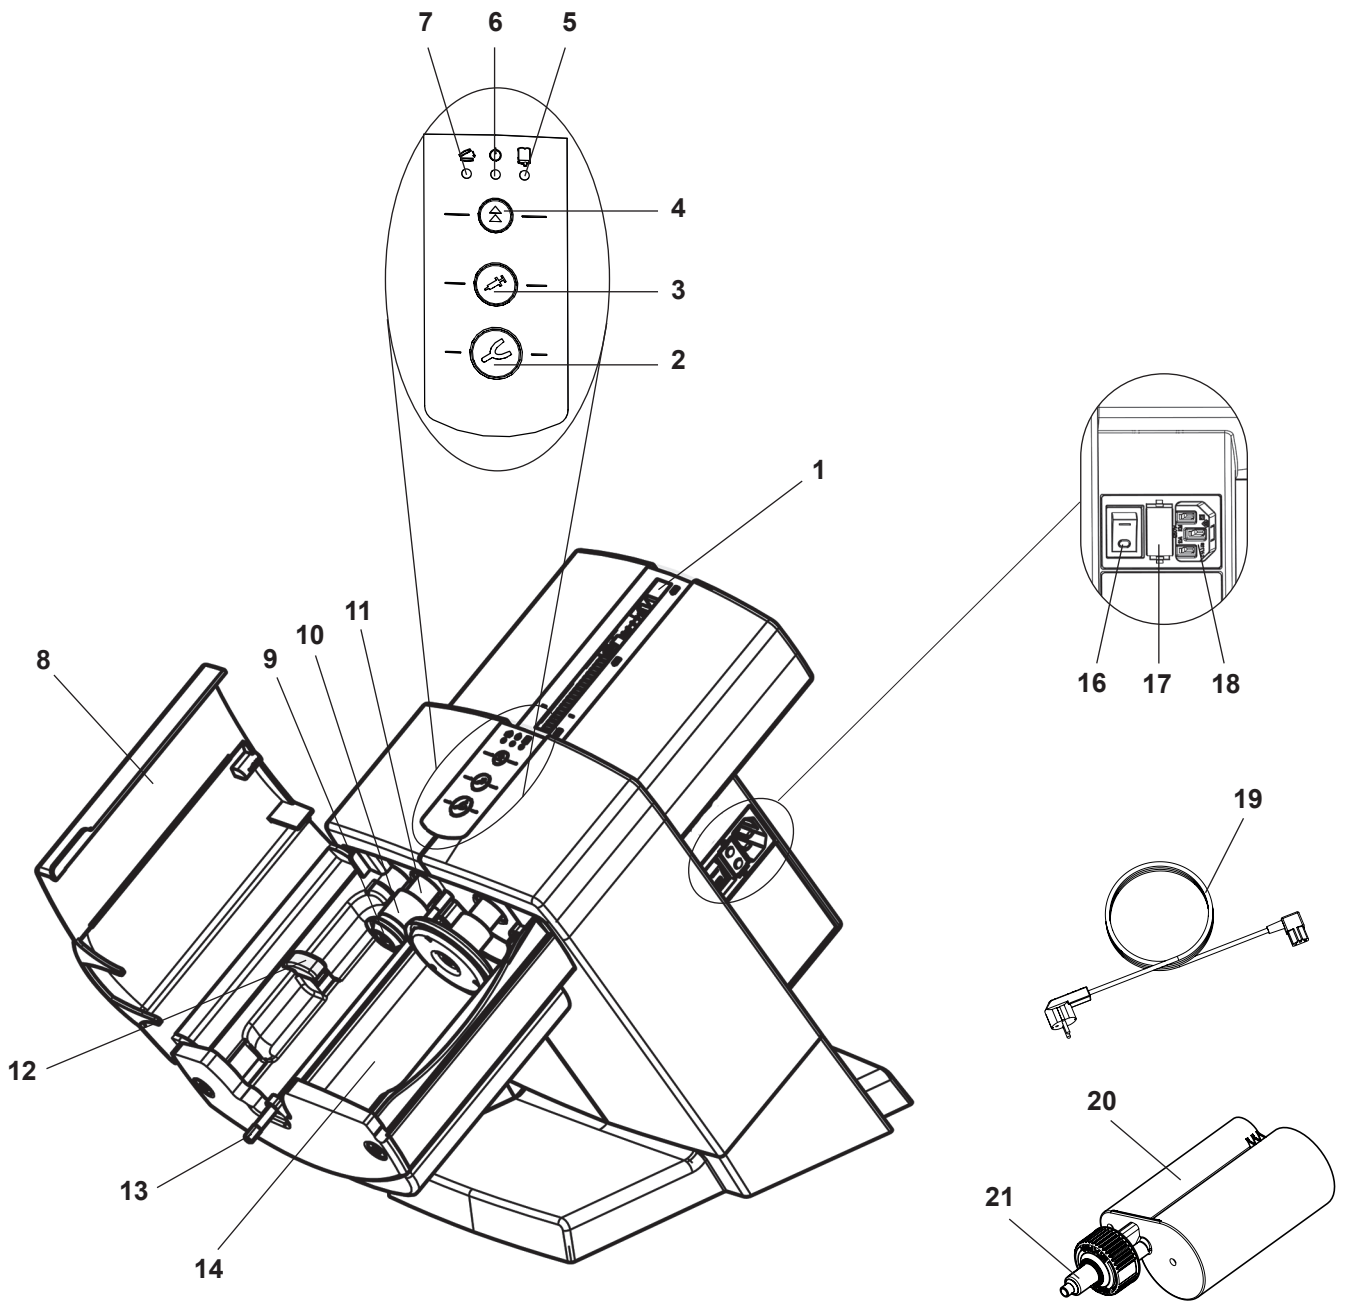

Fig. 1
⇒ Connect the provided power cord (19, Fig. 1) to the mains connection socket (18).
⇒ Close the unit cover (8, Fig. 1).
- ◆ The pressure plates (9, Fig. 1) retract to their home position where they stop.
A cartridge can only be installed or replaced if both pressure plates (9, Fig. 1) are in their home position.
⇒ Open the unit cover (8, Fig. 1).
The cover will only close if the cartridge has been properly installed. The red "Equipment cover" LED will remain on until the cover has been properly closed (7, Fig. 1).
- Impression tray (2), fast extrusion speed
- Dispenser (3), slow extrusion speed
- ◆ The mixer shaft (13, Fig. 1) starts to turn and threads its way automatically into the mixing nozzle (21, Fig. 1), where it stops.